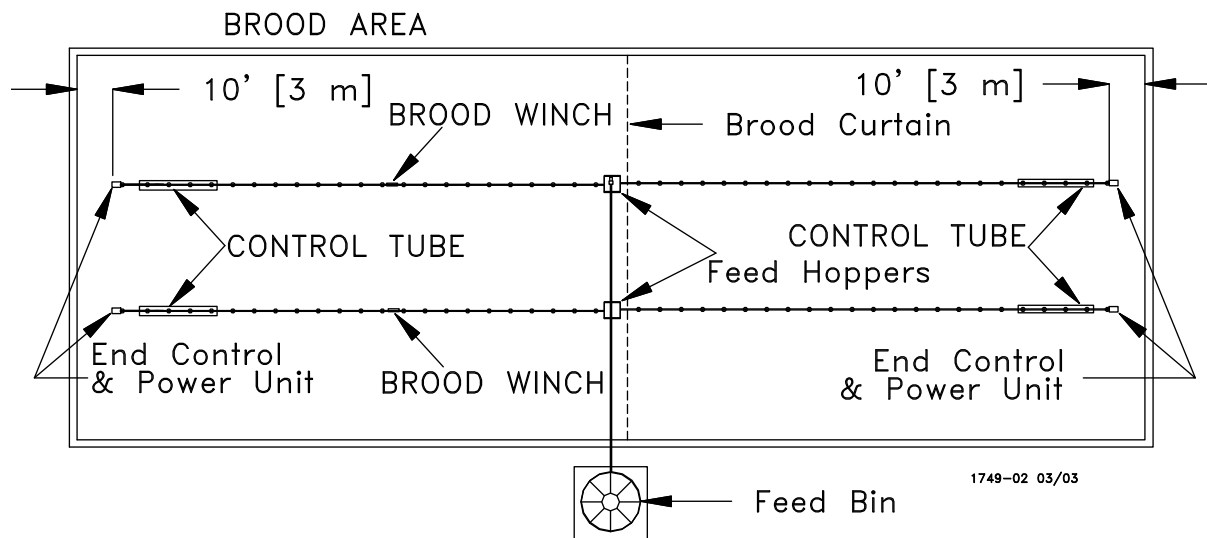

Figure 2. Component location diagram for systems over 400 feet [122 m]. (Top View).
B. Systems with line lengths over 400' [122 m] should be split in the center, as shown in **Figure 2.** This will reduce auger running time and eliminate the need for Mid-Line Controls for partial house brooding.